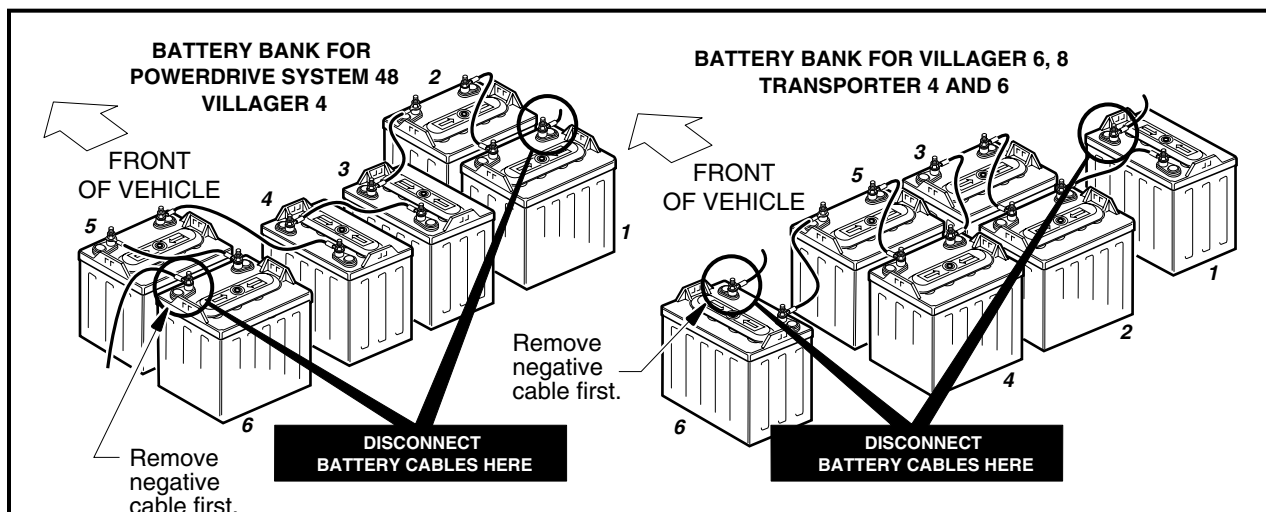
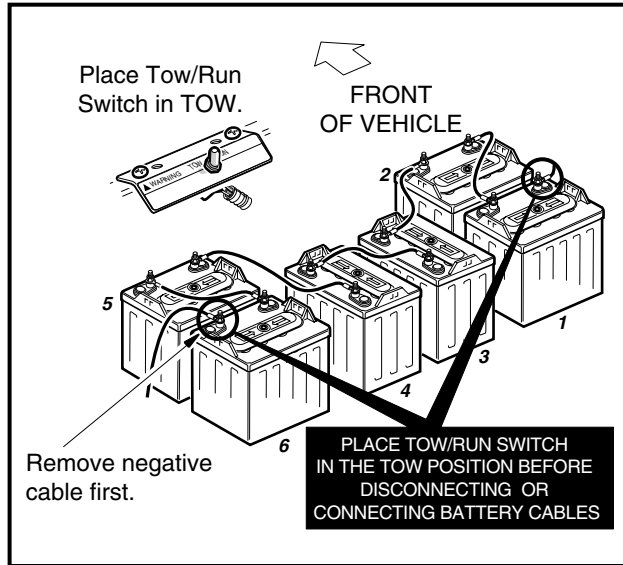

Figure 1-2 PowerDrive Vehicle Battery Configuration
Figure 1-3 IQ System Vehicle Battery Configuration
To avoid unintentionally starting the vehicle, disconnect the batteries as shown (Figure 1-2, Page 1-3 or Figure 1-3, Page 1-4).
**To avoid unintentionally starting the vehicle, disconnect the batteries as shown. See Section 1, Figure 1-2, Page 1-3 or Figure 1-3, Page 1-4.**